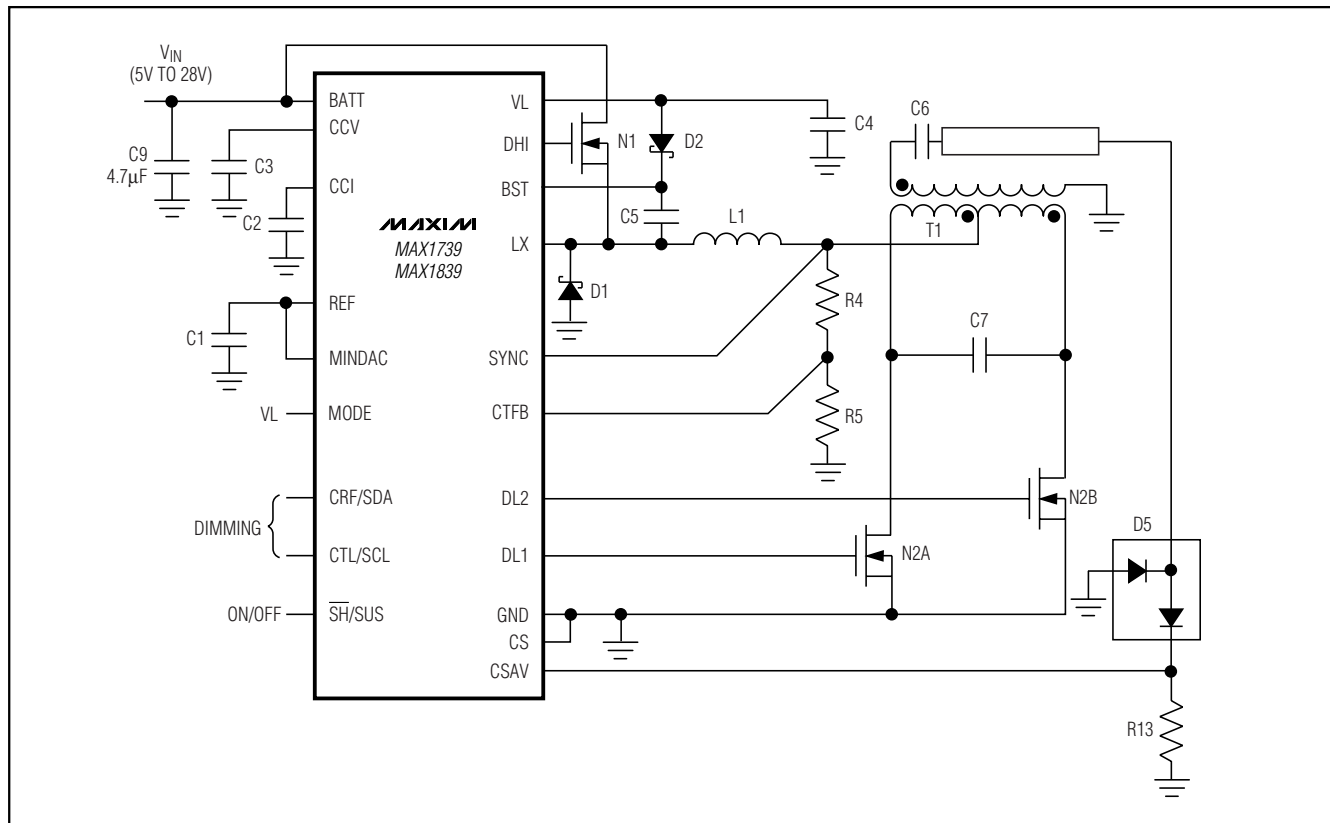

Figure 8. Standard Application Circuit
As shown in the standard application circuit (Figure 8), the MAX1739/MAX1839 regulate the current of a 4.5W CCFL. The IC's analog voltage interface sets the lamp brightness with a minimum 20:1 power adjustment range. This circuit operates from a wide supply-voltage range of 7V to 24V. Typical applications include notebook, desktop monitor, and car navigation displays.
Components T1, C6, C7, N2A, and N2B form the Royer oscillator. A Royer oscillator is a resonant tank circuit that oscillates at a frequency dependent on C7, the primary magnetizing inductance of T1 (LP), and the impedance seen by the T1 secondary. Figure 8 shows
through a signal-level Schottky diode to VL, and bypass it to LX with a 0.1μF ceramic capacitor. This circuit delivers the necessary power to drive N1 as shown in Figure 8. If a higher gate capacitance MOSFET is used, the size of the bypass capacitor must be increased. The current need at BST is as follows: